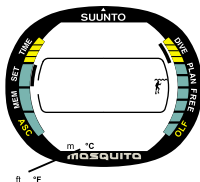

Fig. 4.16. Setting metric/imperial units.
4. While the altitude digits are selected (blinking), press + or - to change the Altitude Mode (Fig. 4.16.).
6. While the units are blinking in the lower part of the display, press + or - to change units (Fig. 4.16.).